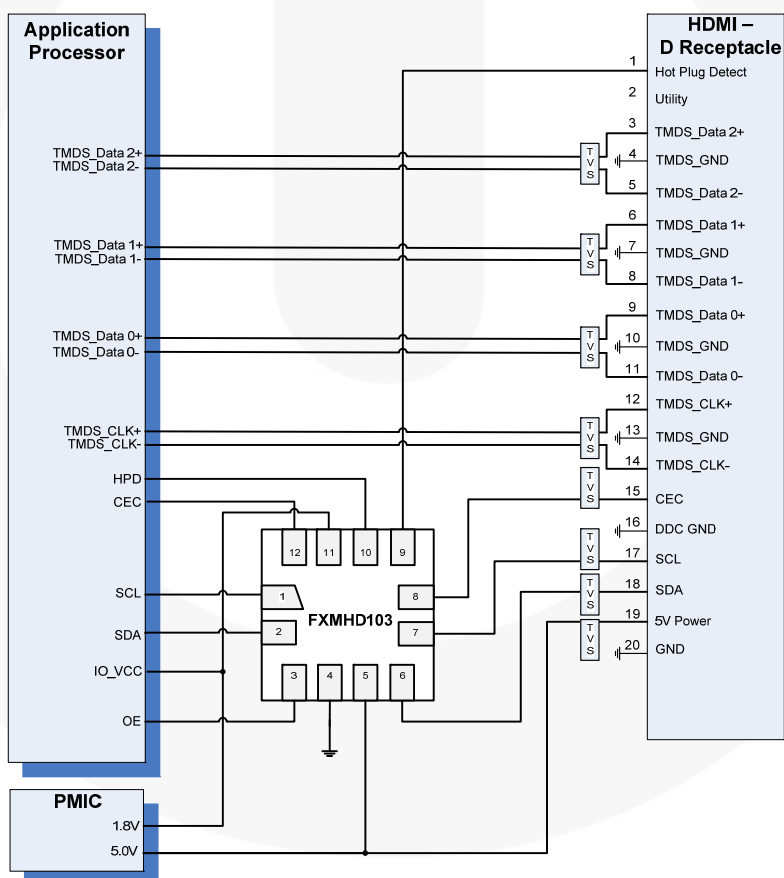

Figure 2. Application Drawing
1. The external TVS devices depicted in the Application Drawing (Figure 2) provide system-level IEC61000-4-2, Level 4 ESD protection to the mobile device system at the HDMI connector. The FXMHD103 provides device-level ESD protection defined in the ESD section of the Absolute Maximum Ratings table.